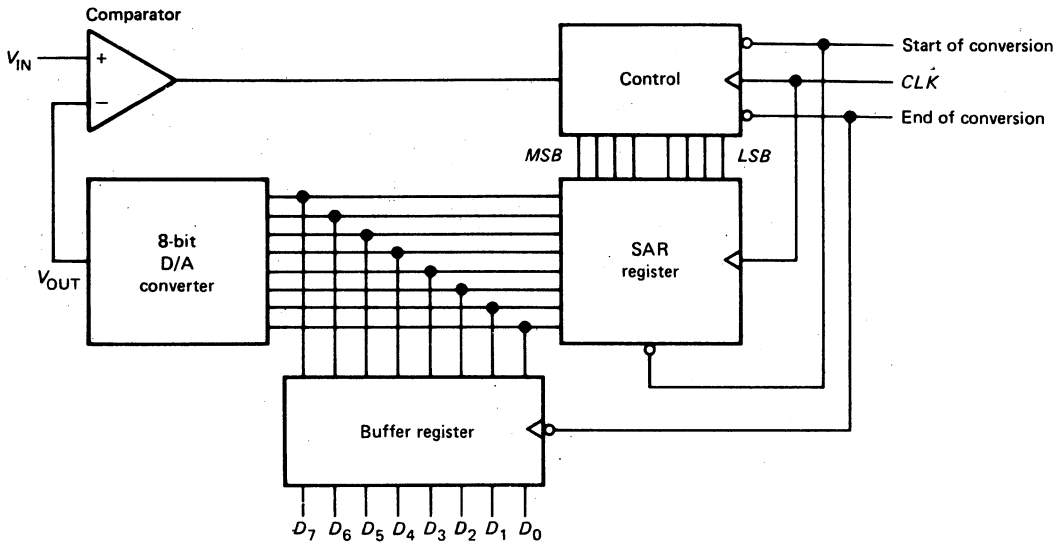

Fig. 16-32
- 16-10. In Fig. 16-32, the digital output D_7 to D_0 has a hexadecimal equivalent of 7C at the end of the conversion. If the maximum output voltage of the D/A converter is 2 V, what is the analog input voltage?